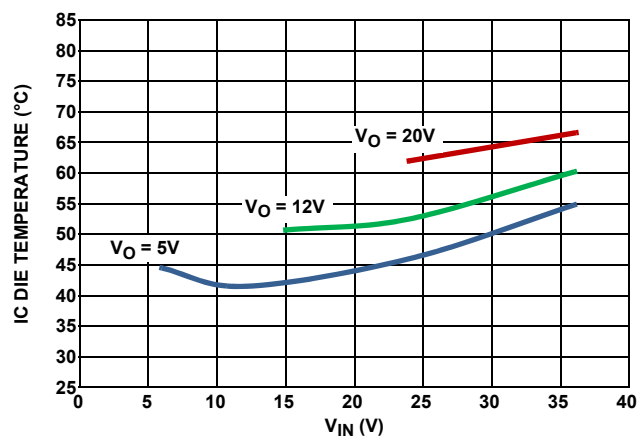

FIGURE 10. IC DIE TEMPERATURE UNDER +25°C AMBIENT TEMPERATURE, STILL AIR, 500kHz,  $I_O = 2A$
- From the thermal perspective, the die temperature shouldn't exceed +125°C with the power loss dissipated inside of the IC. Figures 10 and 11 show the thermal performance of this part operating at different conditions.
Figures 10 and 11 show 2A and 2.5A applications under +25°C still air conditions over VIN range. The temperature rise data in these figures can be used to estimate the die temperature at different ambient temperatures under various operating conditions. Note that more temperature rise is expected at higher ambient temperature due to more conduction loss caused by  $r_{DS(ON)}$  increase.